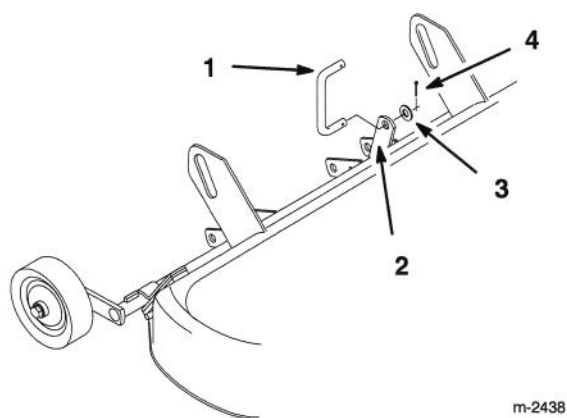

Figure 2
5. Place rear link on mower rear bracket and secure with 1/2" (13 mm) washer and cotter pin (Fig. 2).